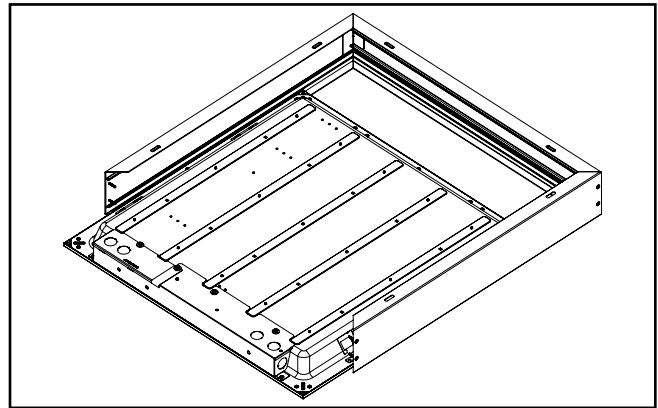

Figure 15.
- C3. Slide the fixture completely into the channel through the open side. (Figure 15.)